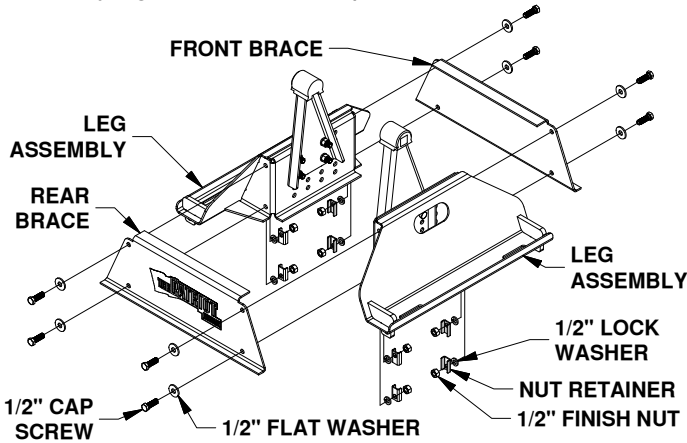

Figure A6: Base assembly.
- Attach braces.** Locate the front and rear brace pieces, nut retainers, and the remaining 1/2" cap screws, lock washers, flat washers, and finish nuts. Attach The front and rear brace to the two leg assemblies by passing four 1/2" cap screws with flat washers through each brace and base leg. Inside the leg assembly, place lock washers, nut retainers, and finish nuts on ends of cap screws. See Figure A6. Do not fully tighten the 1/2" cap screws at this time.